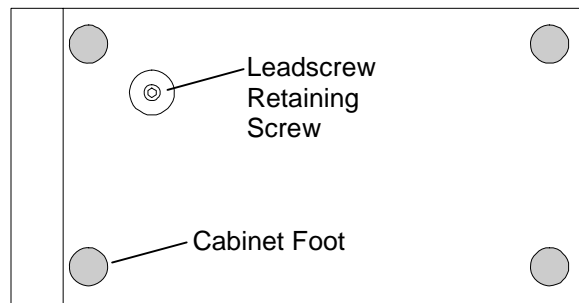

Figure 7-7 Single Bay TLS Cabinet – Bottom View
8. Lay the TLS on its left side (as seen from the front) to gain access to the bottom Leadscrew retaining screw (Figure 7-7).
9. Use a 1/8-inch Allen wrench to remove the Leadscrew retaining screw (Figure 7-7), then stand the TLS upright on its feet. Proceed to step 11.